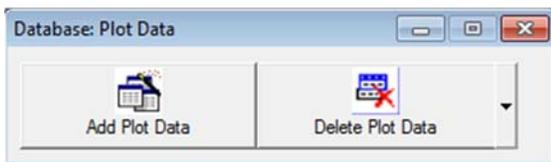

Figure 2.7 – Add or delete plot data.
2. The **Plot Data** form will open. Click the <Add Plot Data> button depicted in Figure 2.7.